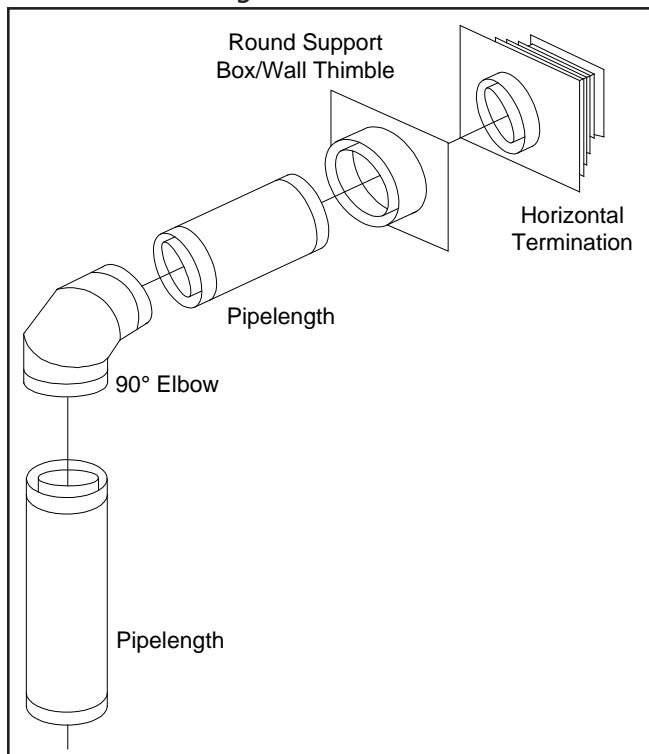
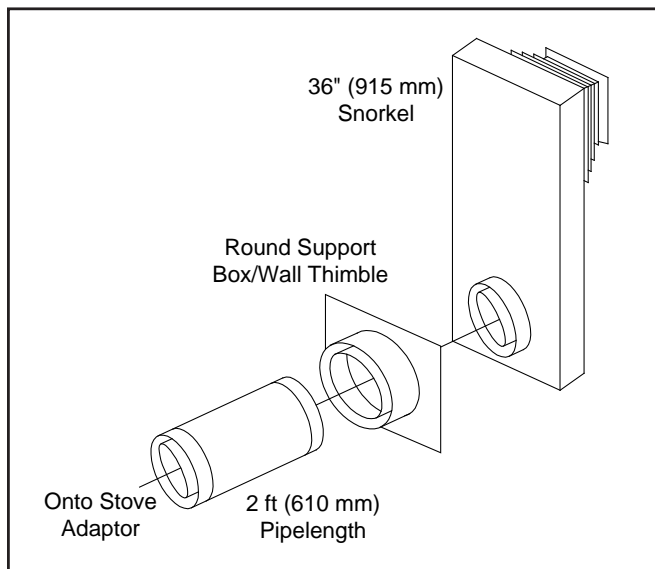
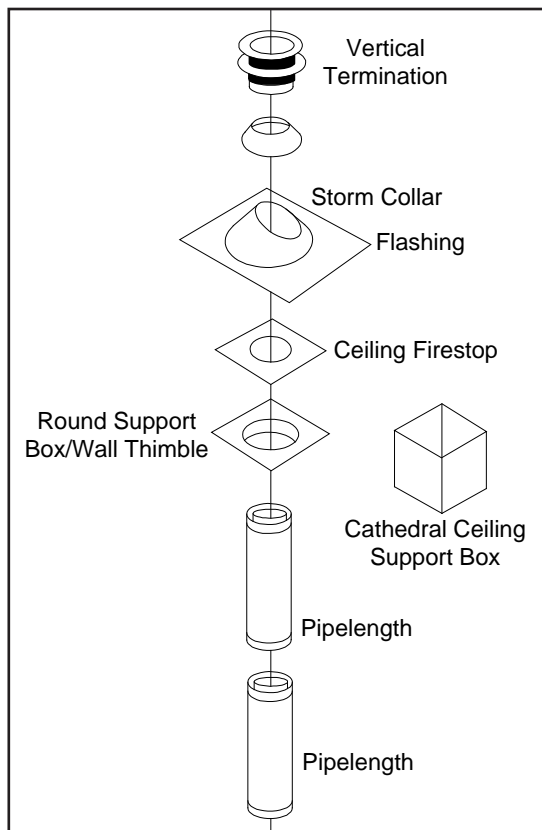

Figure 23: Common Horizontal Installation.
Figure 25: Common Snorkel Installation.
Figure 24: Common Vertical Installation.
There are three (3) permitted types of Direct Vent System installations: horizontal (figure 23), vertical (figure 24) or snorkel (figure 25).